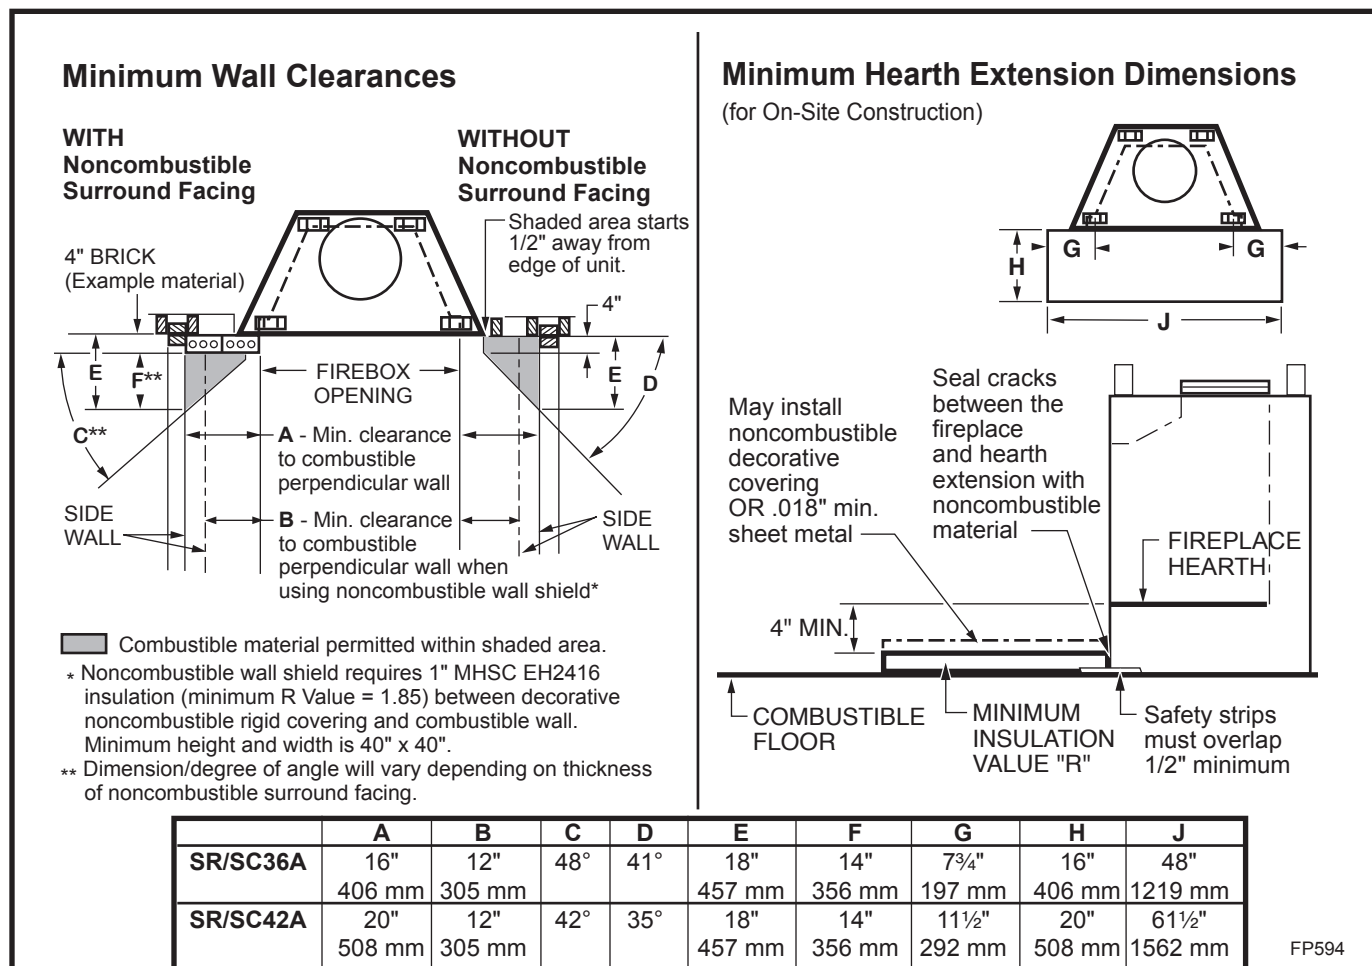

Fig. 23 Combustible side wall protection and hearth extension dimensions.
Often a decorative surround or vertical portion of the mantel is desired. If this is constructed of any combustible material it must be within the safe zone indicated in Figure 23.
Adjacent combustible side walls that are within the minimum dimensions shown in Figure 23 of fireplace opening must be protected with MHSC Wall Shield Model SP40 or a specifically built wall shield described below.
A hearth extension is required to protect a combustible floor in front of the fireplace. Refer to Figure 23 for minimum dimensions and mounting detail.
The hearth extension described in Figure 23 must be a durable noncombustible material with a minimum (total) Rt value of 1.09; refer to Figure 24 for examples. The overall height (above a combustible floor), depth and width must be as indicated, with the extension centered to the fireplace opening.
The top of insulation must be covered with a noncombustible decorative covering or a piece of .018" minimum sheet metal, to protect hearth extension material. (Fig. 23)
Secure the hearth extension to the floor to prevent shifting, using trim molding or other similar means at three (3) outer edges. Seal crack between the fireplace hearth and hearth extension with a noncombustible material. (Figs. 23 and 25)
WARNING: HEARTH EXTENSION MUST BE INSTALLED IN ACCORDANCE WITH FIGURE 23 AND MUST NOT COVER THE BOTTOM FRONT OPENING OF THE CIRCULATING MODEL.